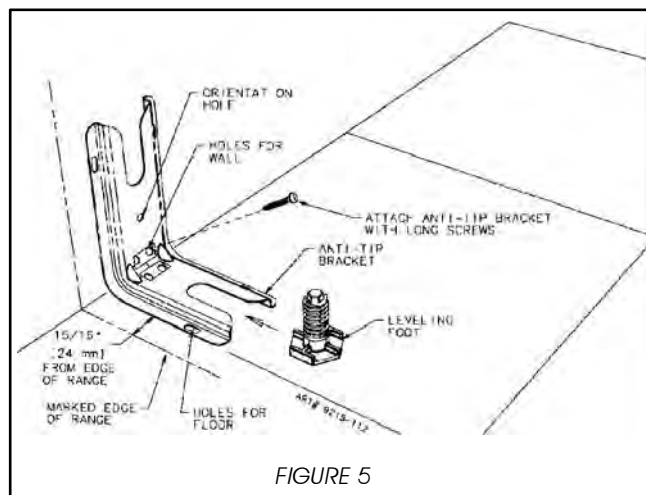

FIGURE 5
STEP 1 - Locating The Bracket (see figure 5)
- Place the BRACKET 15/16" from the marked "EDGE" toward center of opening and against the back wall as shown in figure 5.
- Use the bracket as a template and mark the required holes, as shown in figure 5 for the type of construction you will be using.
- Floor:** Locate the center of the two holes identified in figure 5 as "HOLES FOR FLOOR". Drill a 1/8" pilot hole in the center of each hole (a nail or awl may be used if a drill is not available). Secure the ANTI-TIP bracket to the floor with the two screws provided. Proceed to STEP 3.
- Wall:** Locate the center of the two holes identified in figure 5 as "HOLES FOR WALL". Drill an angled
- Suitable screws for concrete construction can be obtained at a hardware store. Drill the required size hole for the screws obtained into the concrete at the center of the holes identified in figure 5 as "HOLES FOR FLOOR". Secure the ANTI-TIP bracket to the floor. Proceed to STEP 3.